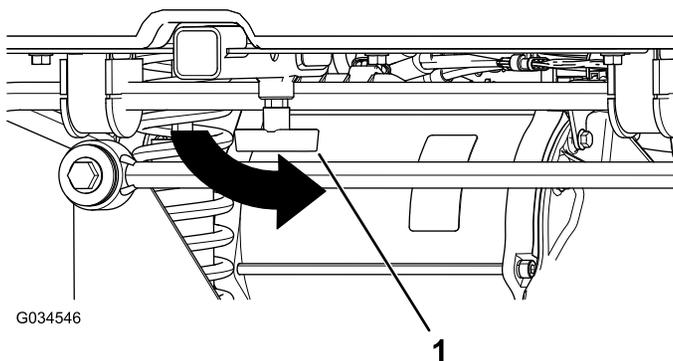

Figure 16
4. Tighten the “T” handle by rotating it counterclockwise (Figure 16).